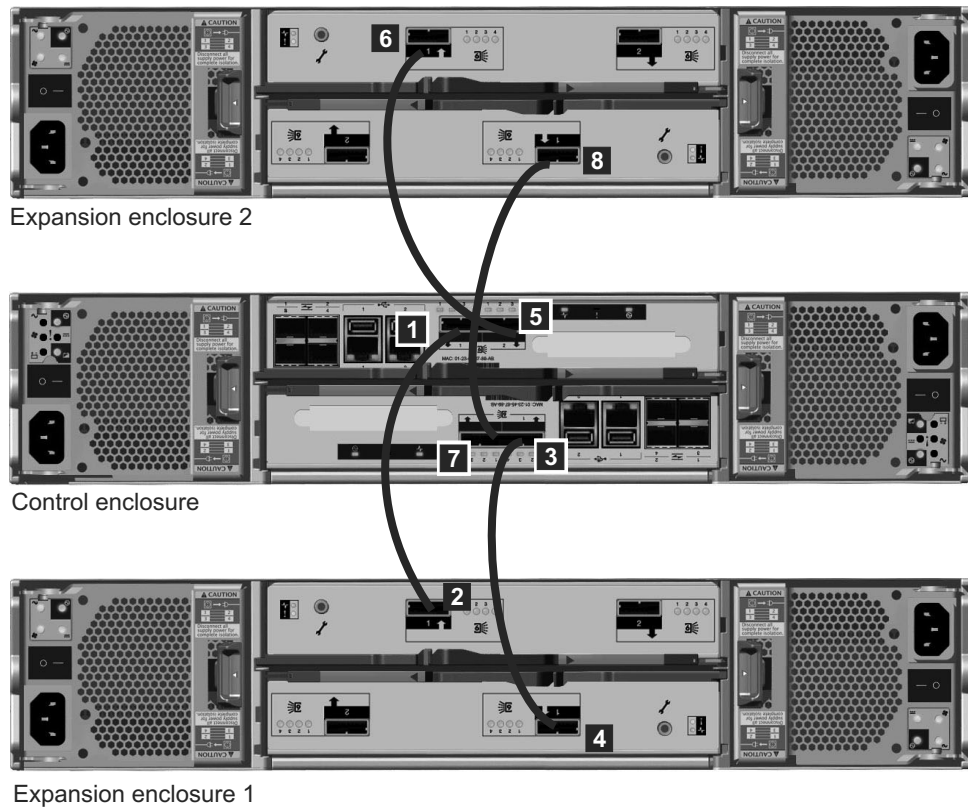

Figure 33. Adding a second expansion enclosure
3. Attach the SAS cables from the control enclosure to the second expansion enclosure as shown in Figure 33 on page 30. The second expansion enclosure is above the control enclosure.